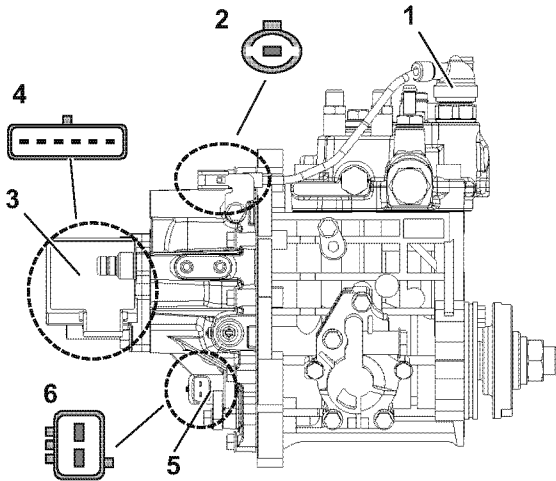

Figure 7-1
- When the cold start device is activated, you may notice a slight increase in the exhaust smoke of the engine during engine warm-up. Electronically controlled engines use a Cold Start Device (CSD) that consists of a fuel injection pump complete with a solenoid valve (Figure 7-1, (1)).
Electronically controlled engines are equipped with an electronically controlled governor called “Eco Governor”. Combined with the rack actuator (Figure 7-1, (3)), engine speed sensor (Figure 7-1, (5)), and other parts, the electronically controlled governor communicates with the engine controller (E-ECU), whereby the engine speed and fuel injection rate are controlled.